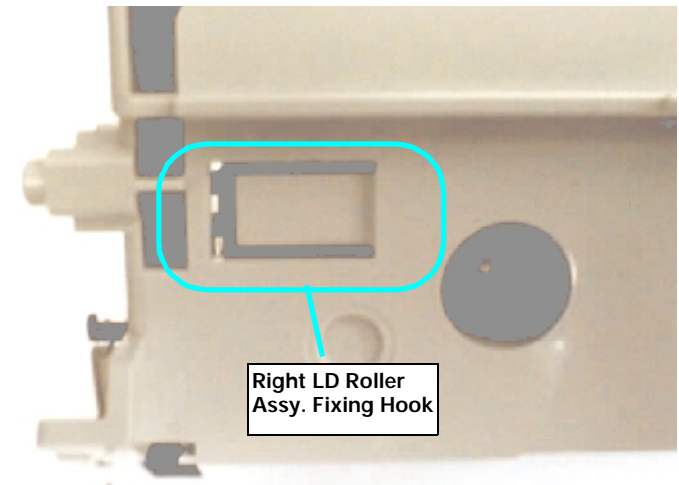

Figure 4-34. Right LD Roller Assembly Fixing Hook Position
- When installing the Right LD Roller Assembly to the ASF Frame, make sure the Right LD Roller Assembly is locked by the hook on the back of the right side of the ASF Frame. (Refer to Figure 4-34.)